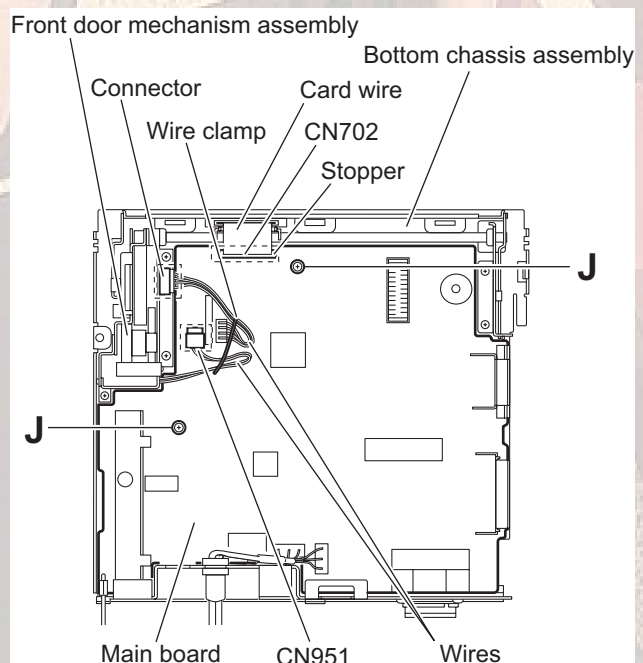

Fig.12
- (2) From the top side of the bottom chassis assembly, remove the two screws **J** attaching the main board to the bottom chassis assembly. (See Fig.12)
- (3) Release the stopper of the connector CN702 on the main board in an upward direction, disconnect the card wire from the connector CN702. (See Fig.12)
- (4) Disconnect the wire from the connector of the front door mechanism assembly. (See Fig.12)
- (5) Disconnect the wire from the connector CN951 on the main board. (See Fig.12)